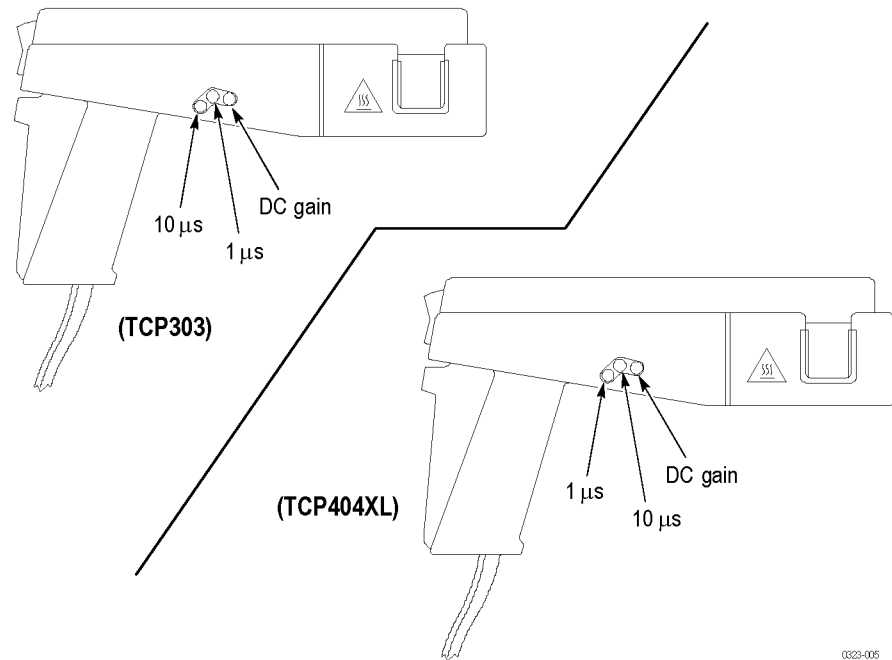

Figure 17: TCP303 and TCP404XL adjustment locations
The location of the probe adjustments is shown below. (See Figure 17.)
2. Preset the probe adjustments: The adjustment locations are shown. (See Figure 17 on page 53.) Do this only at the beginning of the probe adjustment process.
4. Preset the probe adjustments: The adjustment locations are shown. (See Figure 17 on page 53.) Do this only at the beginning of the probe adjustment process.